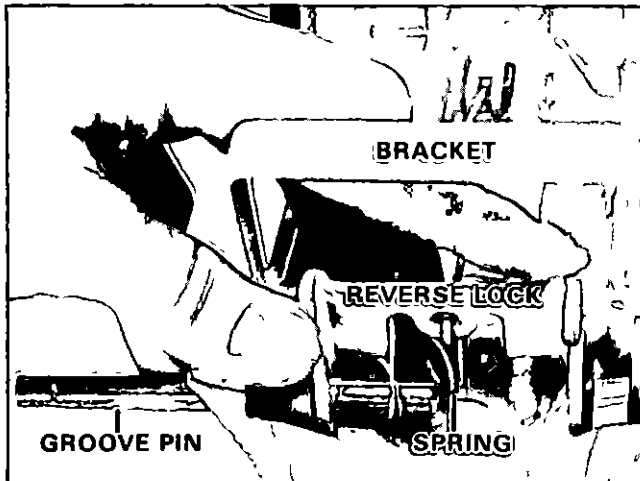

Figure 12. Installing Reverse Lock.
- C Assemble reverse lock, spring, spacers and shallow water drive bracket by driving groove pin into swivel bracket Figure 12